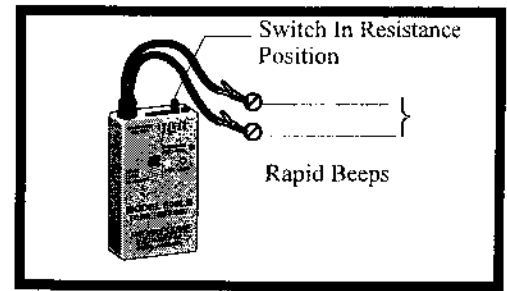

Figure 5 - Proving Continuity
2. Continuity can also be proven by using the "resistance" feature of the 600LS test set. This is done by proving a relative lack of resistance in the conductor being tested. To do so, place the slide switch in the "resistance" position and connect one test lead to one end of the conductor to be tested. (See Figure 5)